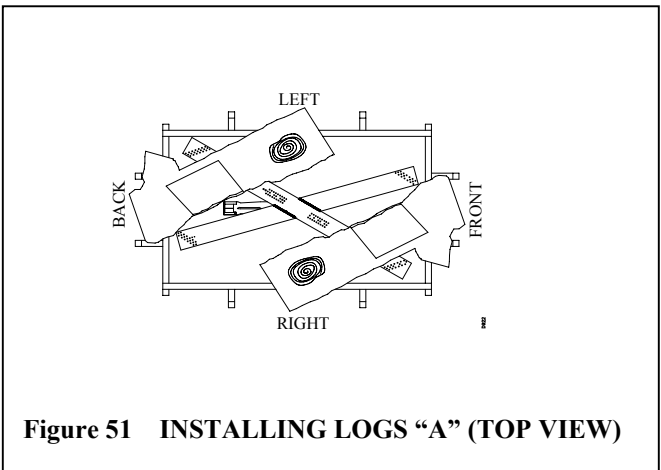

Figure 51 INSTALLING LOGS "A" (TOP VIEW)
6. Place logs "A" as shown in figure 51.